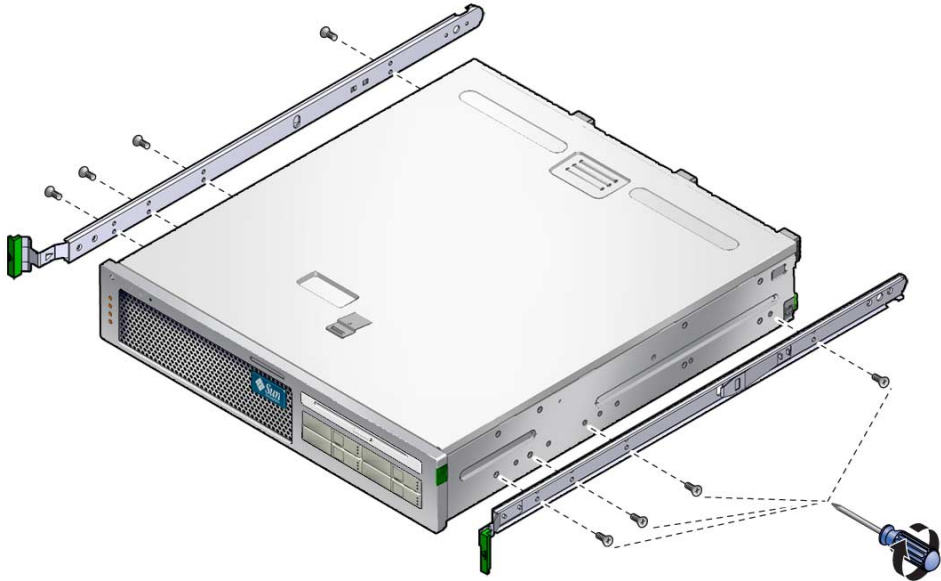

FIGURE 3-16 Attaching the Glides to the Server Chassis
3. Using eight of the M4 x 0.5 x 5 mm Phillips panhead screws from the rackmount kit (four for each side), attach each glide to the side of the server chassis (FIGURE 3-16).